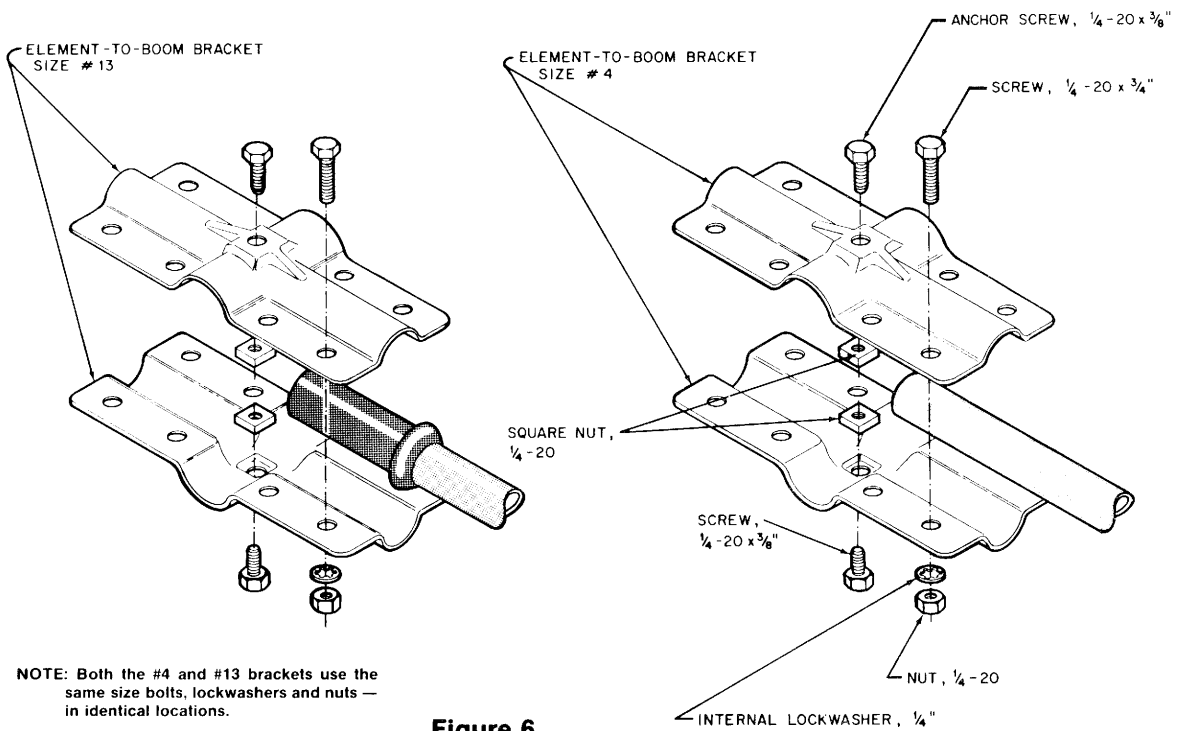

Figure 6
Select the element-to-boom brackets and insert the $\frac{1}{4}$ "-20 x $\frac{3}{8}$ " anchor screws and $\frac{1}{4}$ " nuts as shown in Figure 6.
Slip the insulated end of the driven element into the bracket assembled on the boom. Tighten the screws to hold the element securely but *do not* tighten the anchor screw (item 25) at this time. Refer to Figure 6.